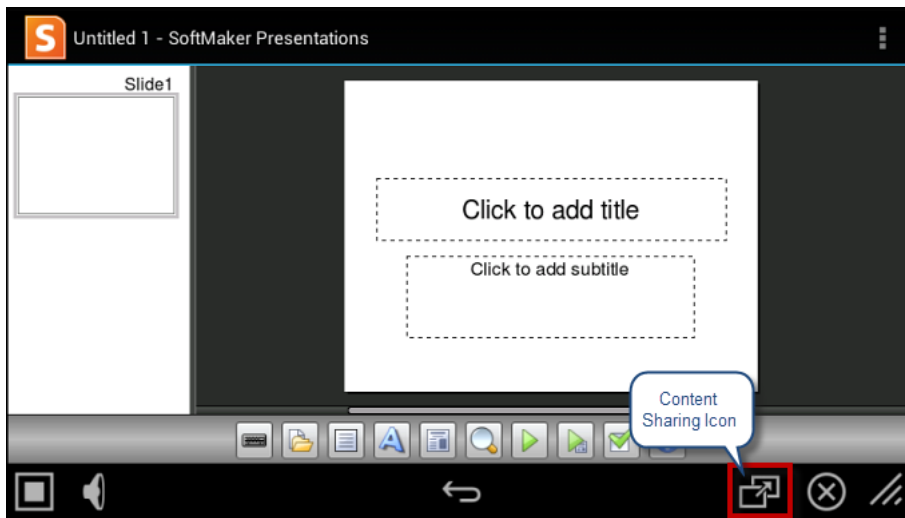

FIG. 124 Presentation Application - Content Sharing icon
- Other applications display the Content Sharing icon in the G5 Menu Bar at the bottom of the window, as shown in FIG. 124: